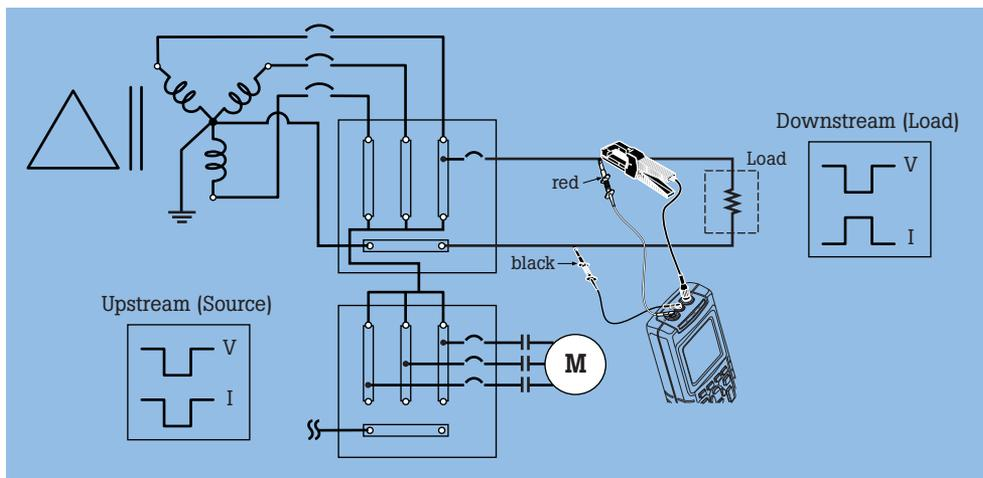
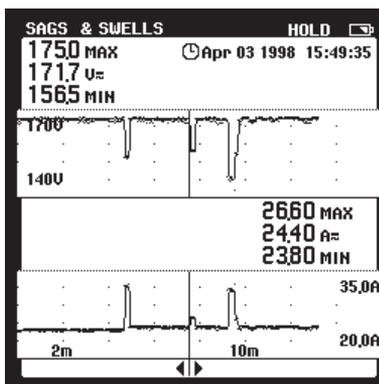

Figure 1. Isolating source of disturbance.
Figure 2. Voltage on top, current on the bottom. Real-time stamp on top.
Connect the instrument's voltage probes and current clamps on the load side of the breaker, as shown in Figure 1. Using a single phase analyzer's Sags & Swells mode, voltage events can be trended on the top half-screen and current events on the bottom half-screen (Figure 2). Each point on the trendplot (240 total points for the full-screen trend) represents three values in the sample period: The lowest single cycle (min or sag), the highest single cycle (max or
- If a *voltage sag* occurs simultaneously with a *current surge*, the sag was caused by a load on the branch circuit (Figure 2). In other words, the cause of the sag was *downstream* of the measurement point and therefore can be thought of as a *load-related disturbance*.